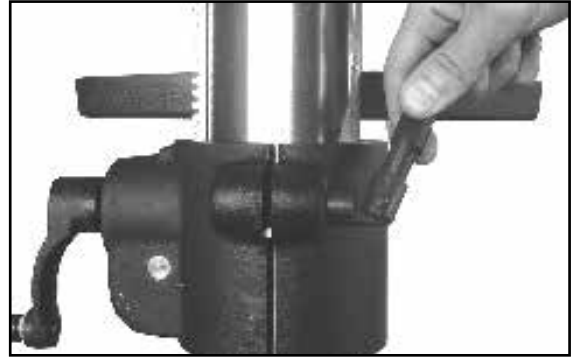

Figure 5
6. Install the locking lever onto the table support bracket and tighten the locking lever (Figure 5).